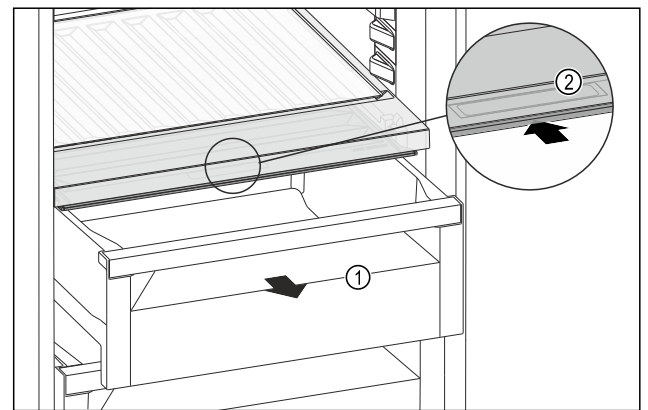

Fig. 128
- Pull out the drawer Fig. 128 (1).
- Grasp the recessed grip Fig. 128 (2) on the compartment lid and push the compartment lid backwards at the same time.